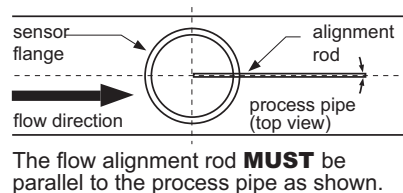
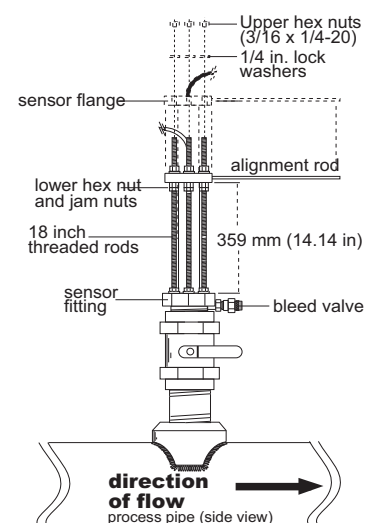

Fig. 10
Fig. 11
- C. Wipe the sensor body with a dry, clean cloth. Orient the alignment hole on the sensor flange to point **downstream**. Place the slotted flange over the threaded rods. Lower the sensor into the fitting until the sensor flange rests on the lower hex and jam nuts. (Fig. 10 & Fig. 11)
- D. Secure the sensor with lock washers and upper hex nuts on the top of the flange. Before tightening, align the sensor flange so that the alignment rod is parallel and level with the process pipe. (Fig. 10 & Fig. 11)